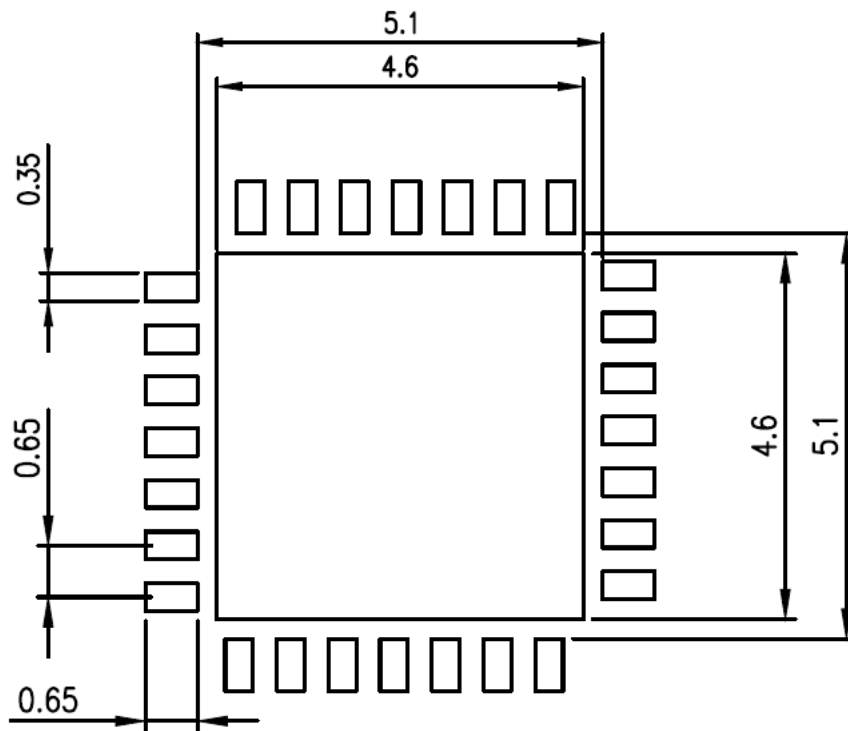

Figure 27. Recommended land pattern
- Figure 27 shows a recommended land pattern.